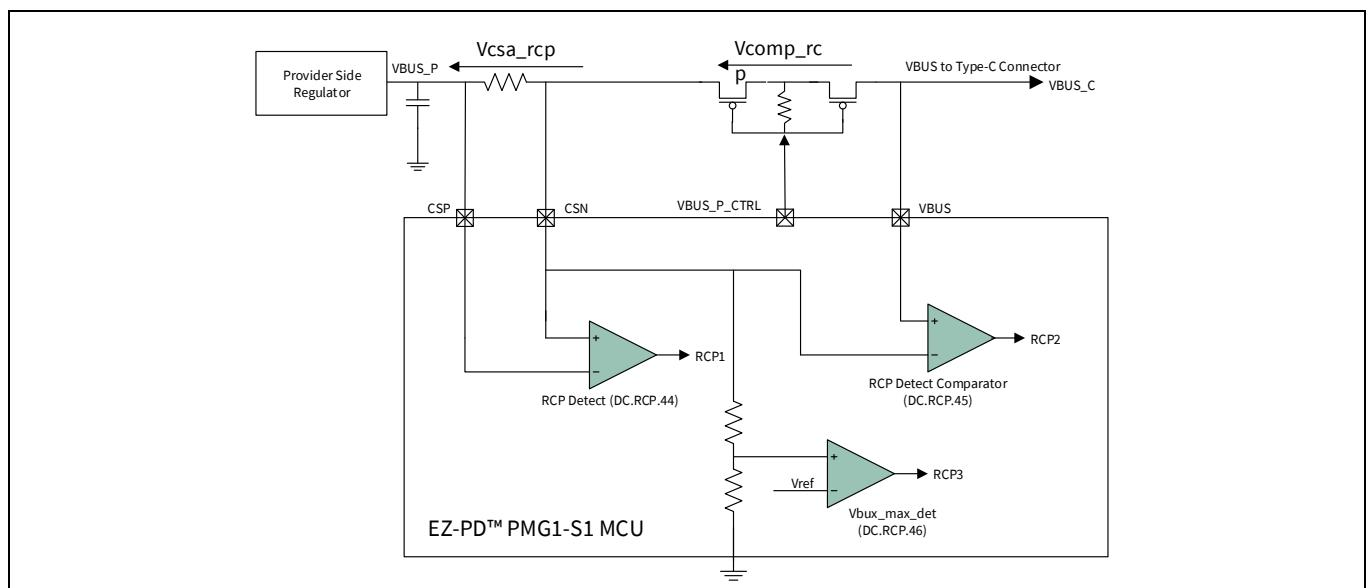

Figure 6 RCP mechanism
EZ-PD™ PMG1-S1 has three distinct mechanisms to detect the reverse current as shown in Figure 6.
- Mechanism 1: A comparator senses the voltage drop across external R_{sense} through pins CSP and CSN. This comparator signals an RCP event whenever CSN > CSP by the V_{csa_rcp} voltage given in Table 34. The output of this comparator RCP1 is shown in Figure 6.
- Mechanism 2: A comparator senses the voltage drop across provider FET through CSN and VBUS pin of EZ-PD™ PMG1-S1. This comparator signals an RCP event whenever VBUS > CSN by the V_{comp_rc} voltage given in Table 34. The output of this comparator RCP2 is shown in Figure 6.
- Mechanism 3: A comparator senses the 20% voltage of the CSN pin and compares it against $V_{ref} = 1.15$ V for 5-V provider VBUS application. This comparator signals an RCP event whenever CSN voltage goes above $V_{bus_max_det}$ voltage given in Table 34 for a 5-V application. The output of this comparator RCP3 is shown in Figure 6. Note that V_{ref} is programmable and the voltage divider has an option to use 10% or 20% value. For a higher voltage of the provider, the VBUS device automatically adjusts this threshold.